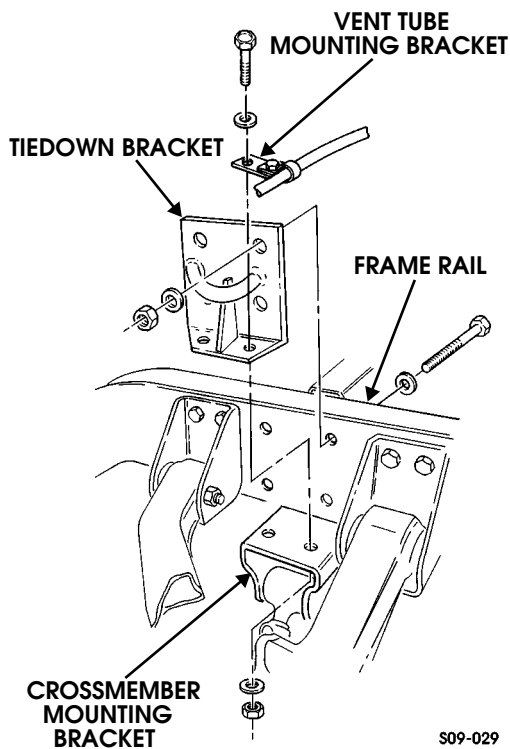

Figure 9-148: Rear-Front Tiedown Bracket Replacement
2. Remove four locknuts, washers, bolts, washers, and tiedown bracket from frame rail (Figure 9-148).
1. Install tiedown bracket and vent tube mounting bracket on rear suspension front crossmember mounting bracket with two washers, bolts, washers, and locknuts. Tighten locknuts to 90 lb-ft (122 N•m) (Figure 9-148).